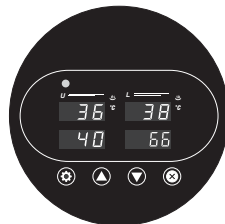

Fig.16
- After selected, then give a long press about 8 seconds to the  set button, it will record settings and back to the original panel to work(Fig.16).